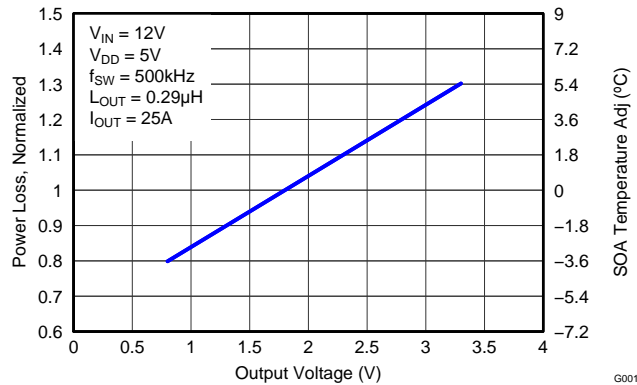

Figure 9. Normalized Power Loss vs Output Voltage
- Normalized Power Loss for output voltage ≈ 0.94 (Figure 9)
- SOA adjustment for output voltage $\approx -1.1^{\circ}C$ (Figure 9)